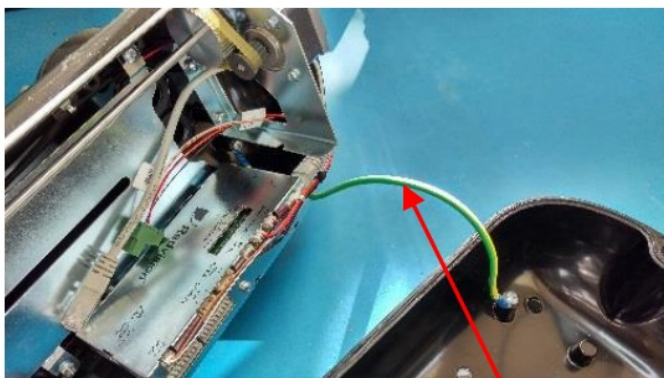

Fig 14
- Gently pull the housing cover backwards and upwards, noting that an earthing strap connects the housing cover to the base. Ensure that the earthing strap remains connected at all times (Fig 14). ⚡ Take care to ensure that the earth strap is not trapped when refitting the housing cover.